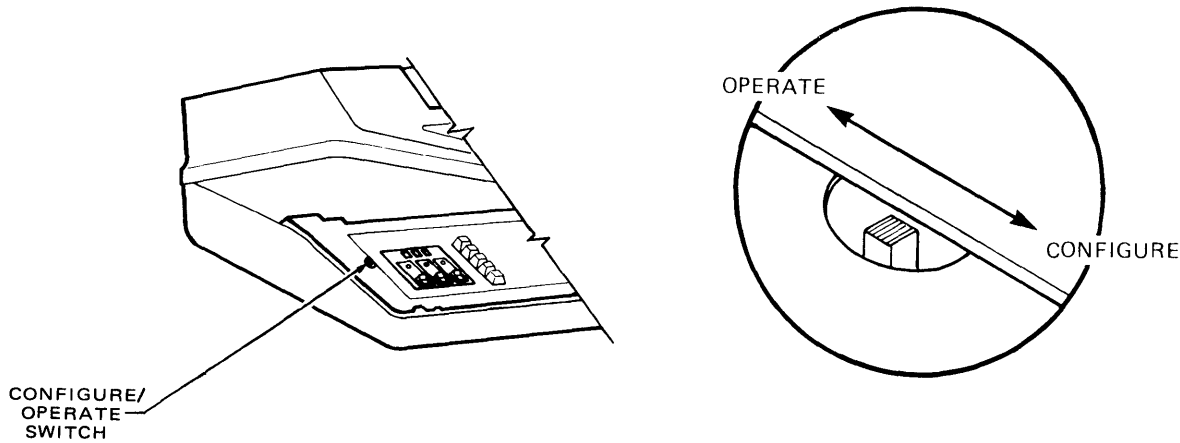

Figure 3-4. CONFIGURE/OPERATE Switch
3.2.4 CONFIGURE/OPERATE SWITCH (Model 820 KSR only). This two-position slide switch is located on the left side of the operator panel under the terminal cover. When in the CONFIGURE position, the terminal operating parameters may be changed; when in the OPERATE position, the terminal functions normally. The OPERATE position of this switch is shown in Figure 3-4.